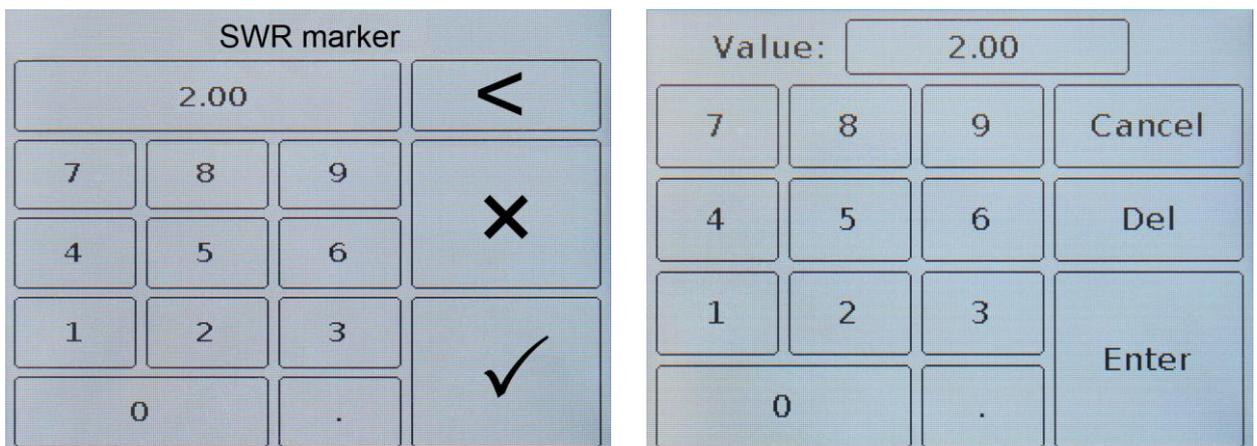

Figure 9.21 – Entering the numerical value of the displayed SWR limit line
9.8.4. To change the display value of the level of the VSWR limit line, click on the numerical value **Value**, and in the appeared submenu (Figure 9.21), enter a numeric value in the range from 1.01 to 9.00.
9.8.5. Enter the numerical value of the coefficient and press **✓** or **Enter**. To delete erroneous or previously entered values, press **×** or **Del**. To refuse to enter a value, click **<** or **Cancel**. *In our example, in figure 9.21, we enter the numerical value of the displayed VSWR limit line of the value on the charts.*